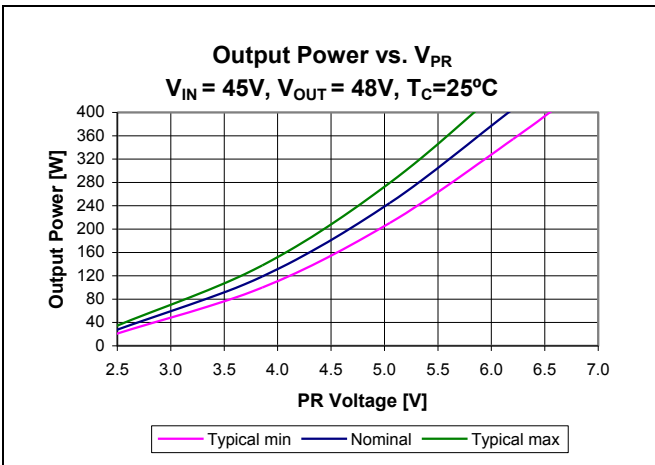

Figure 21 – Output Power vs. V_{PR} ; $V_{IN} = 45\text{ V}$, $V_{OUT} = 48\text{ V}$, $T_C = 25^\circ\text{C}$
Control node (PR) is the input to the control node which determines the powertrain timing and ultimately the module output power (Figure 21). An internal 0.5 mA current sink is always active. The bi-directional buffer between PR and the control node has two states. In normal operation, PR will be above the 0.79 V switching threshold, and will drive the control node through the buffer. An internal 7.4 V clamp determines the maximum output power that can be requested of the modulator.